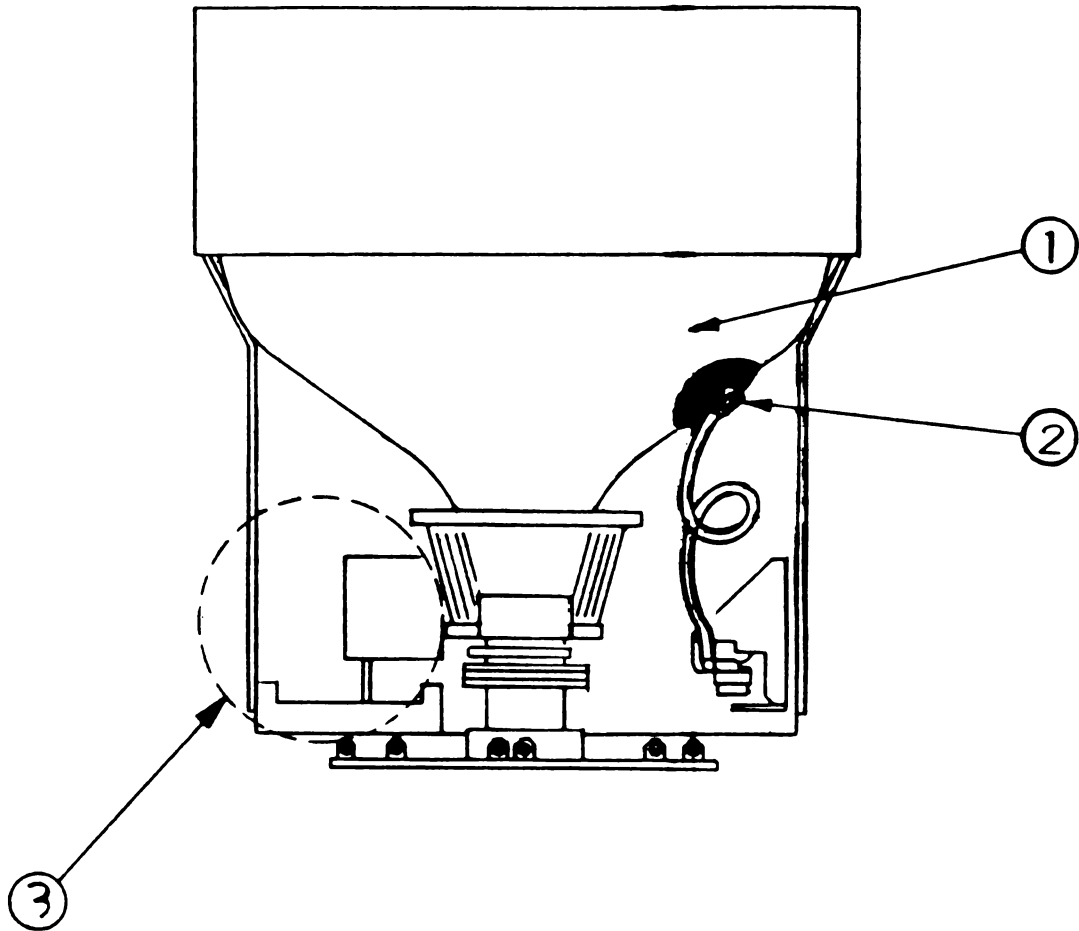

FIGURE 1
1. During these adjustments your hand will come close to extremely high voltages on the tube, anode, anode lead, and in the power supply area (Figure 1, #1, #2, and #3). Avoid touching these parts.